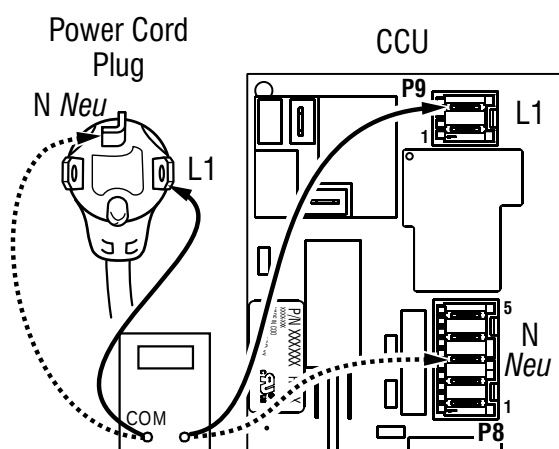

Figure 3 - Plug-to-terminal connections for electric dryer
4. With an ohmmeter, check the continuity from L1 and N plug terminals of the power cord to the terminals for L1 and N on the CCU. See figure 3.